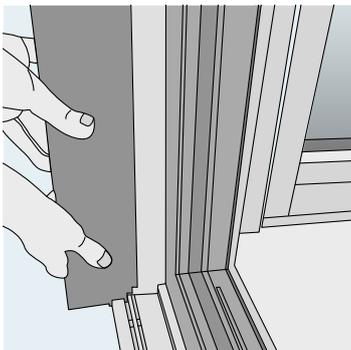

Figure 17
- b. Then push the aluminium part in at the threshold (figure 17).